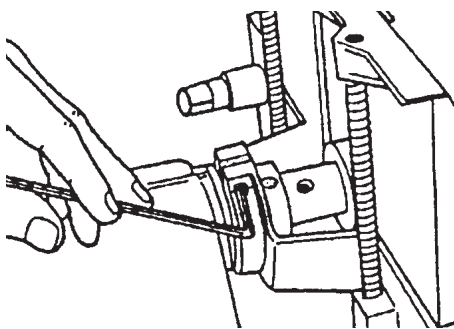

Figure 98
- Use the 5/32" Allen Wrench to tighten the Socket Head Screw on the Saw Guard Collar, as in Figure 98.